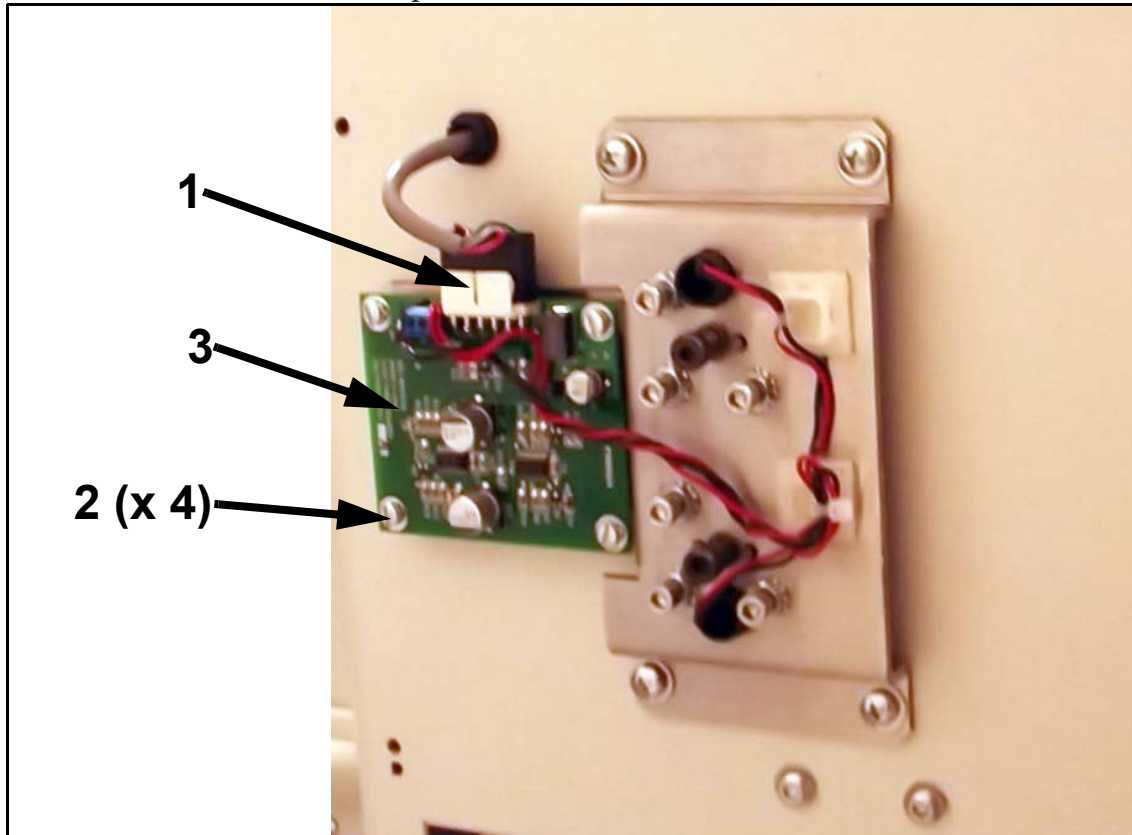

Figure 6-30. Brake PCB Removal
- 2 Disconnect the electrical connector (1 in Figure 6-30).
- 3 Unscrew the mount screws (2) and remove the PCB (3).